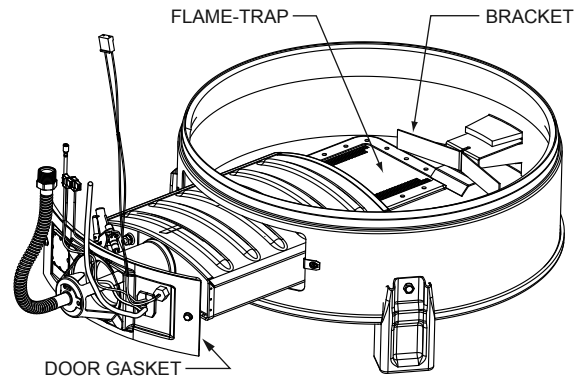

FIGURE 30.
- Use a vacuum cleaner/shop vac to remove all loose debris in the combustion chamber (Figure 30). Use compressed air to clear any dust or debris that may have accumulated in the flame trap (flame arrester).
3. Insert the burner assembly into the burner compartment, making sure that the burner assembly sits firmly against the burner bracket inside the combustion chamber (Figure 30).